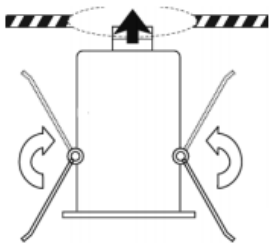

Fig. 4
- Lift both of the spring clips on the sides of the fitting and push into the ceiling (see Fig. 4)